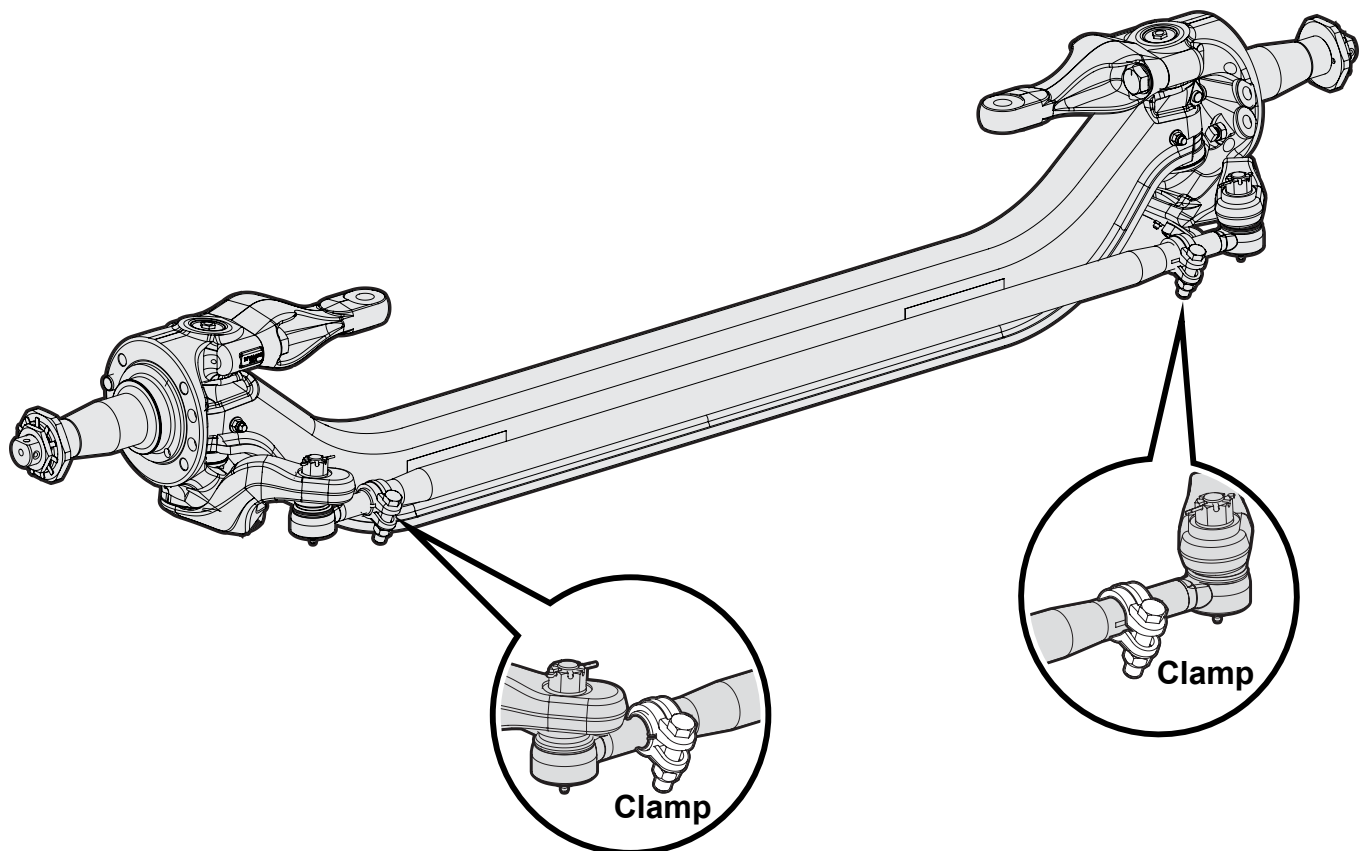

Figure 1
3. Locate the steering axle tie rod end clamps (see Figure 1).